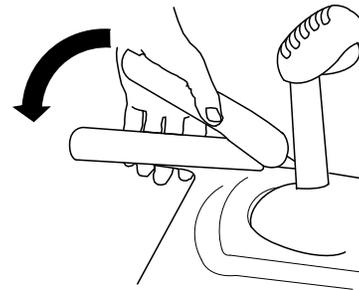

Figure 4
3. Squeeze the left (traction) lever to the handgrip (Figure 4).
- 6. Squeeze the left (traction) lever to the handgrip (Figure 4).